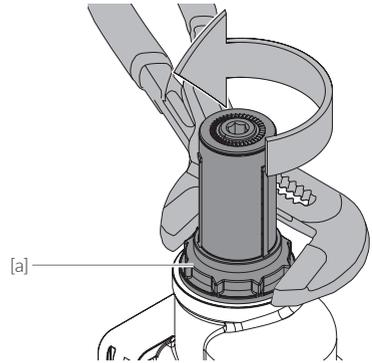

Fig. 9.6
- / Fig. 9.6: Turn the screw cap [a] in the direction of the arrow using a pair of valve pliers and loosen it from the housing